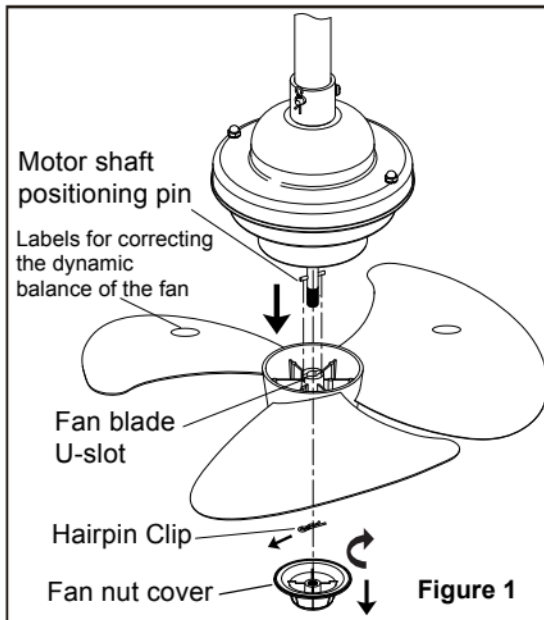

Figure 1
- ☐ **1. Installing Remote control Holder: (Figure 1)**
Take out the fan nut cover clockwise, insert the screwdriver into the empty position of the hairpin, pull out the hairpin, and then take out the fan blade. (Figure 1)
Be careful not to tear off the balance stickers on the fan blades. The fan blades have been calibrated for dynamic balance, so as not to cause the lamp body to shake when the fan is running.(Figure 1)